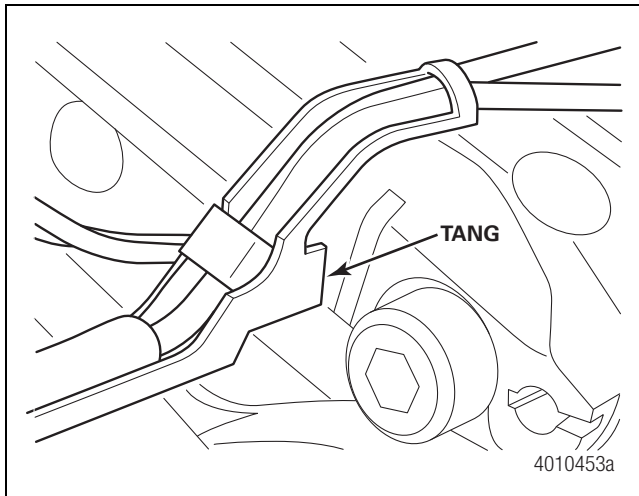
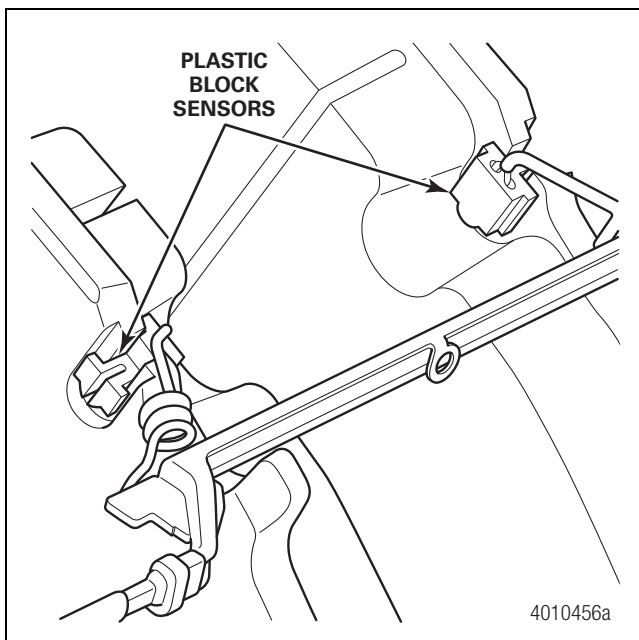

Figure 4.6
Figure 4.7
- **If a PWWI is present:** Lift the PWWI assembly and disengage the tang from the housing assembly. Do not remove the plastic block sensors from their locations in the pads unless the PWWI assembly is being replaced. Always replace a damaged PWWI assembly with genuine OE parts. Figure 4.6 and Figure 4.7.